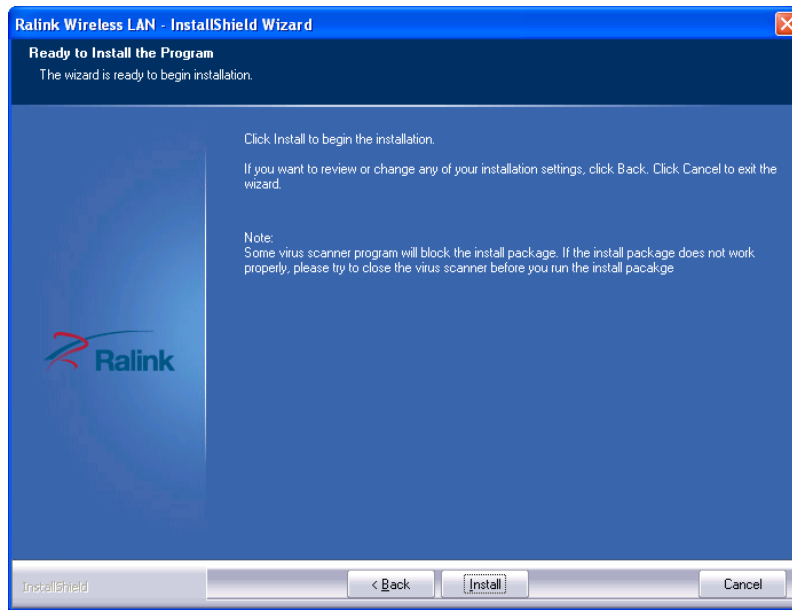

Figure 1-4: Ready to Install the Program
Step 9: The **Ready to Install the Program** screen in **Figure 1-4** appears.